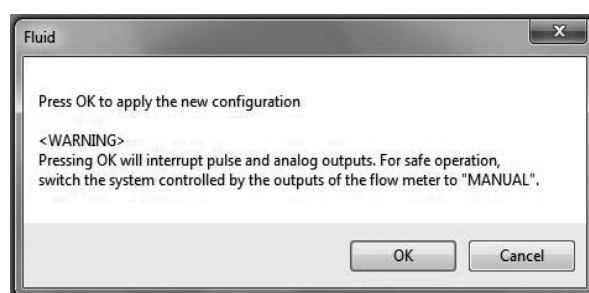

Fig. 3-34
- (4) Once all settings are completed, click "OK" button. Then, the message box (Fig. 3-34) will be displayed.